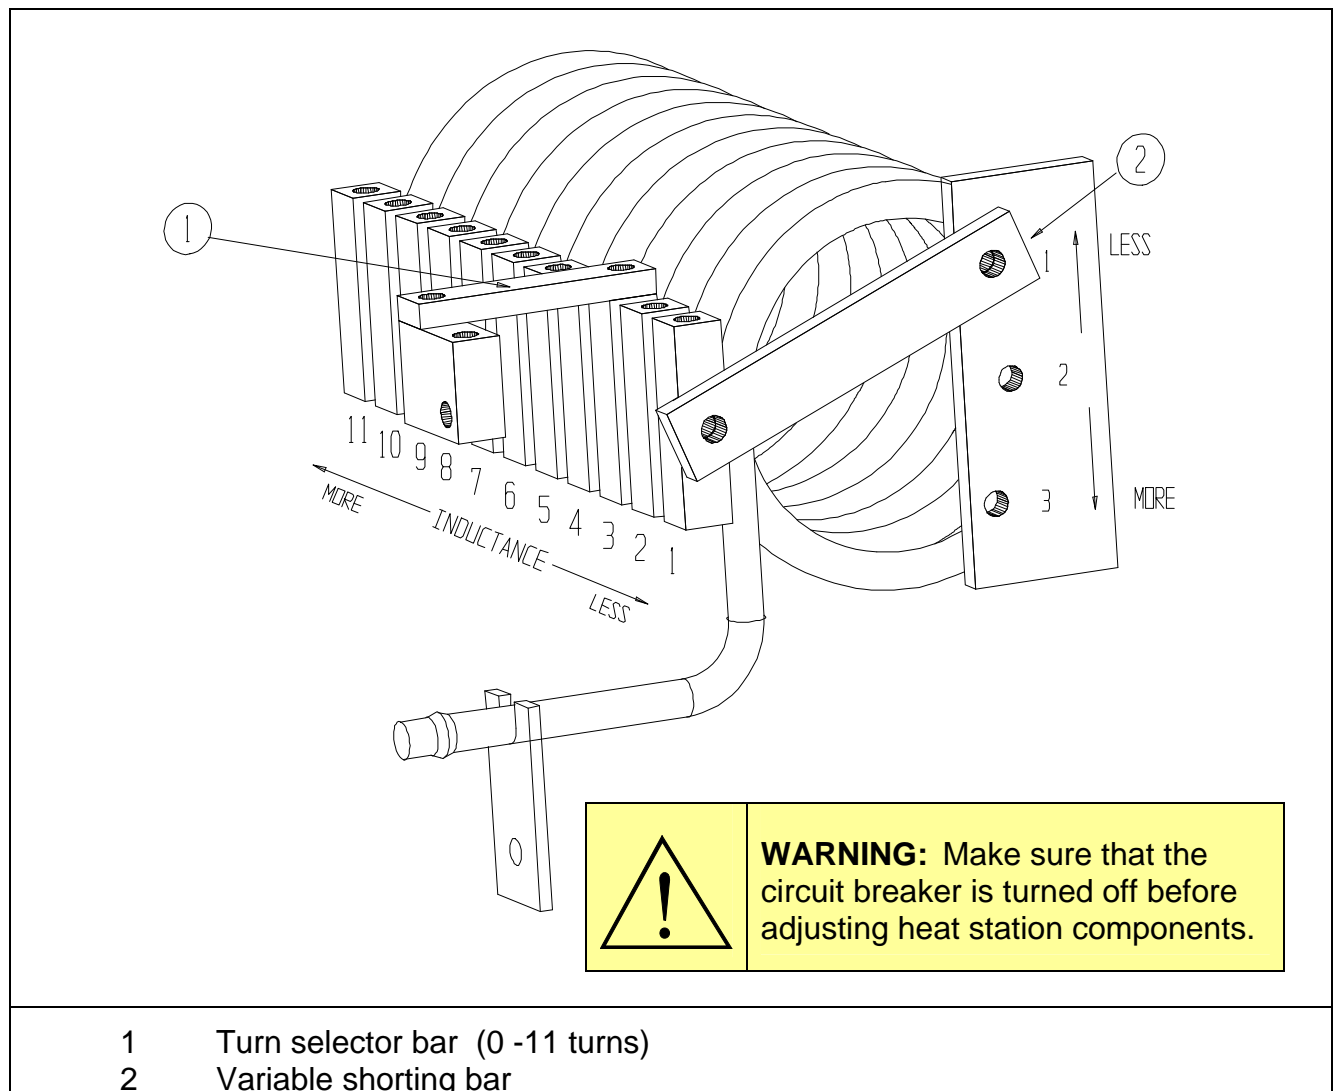

Figure 4: Adjusting the Series Inductor
The turn selector bar is identified by ① in Figure 4 on page 18. For the initial setup (section 6.2 on page 15) this is the only bar that is used and should be screwed onto the correct set of tabs to select the desired number of turns on the series inductor. The near position selects zero turns and the far position eleven turns, as indicated in Figure 4 on page 18. Tighten the bar into position using the mounting screws.